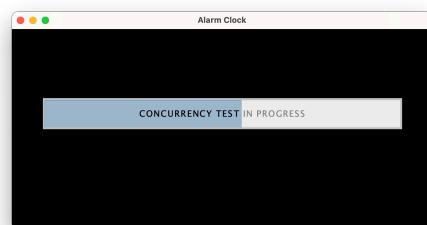

Figure 1.3: Emulator in test mode.
- I5. The emulator also includes a test mode (figure 1.3), designed to detect a particular type of race condition. In this mode, the emulator generates time changes (`UserInput` objects) at a high rate, quickly alternating between 00:00:00 and 12:34:56. The test is started by pressing 'T' and runs for 30 seconds.